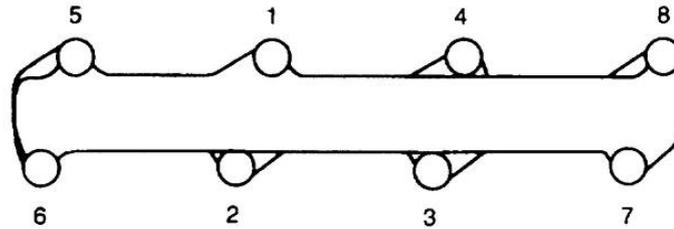

Figure 24 Exhaust Manifold - Tightening Sequence
- c. Place the exhaust manifold over the gaskets aligning the studs with the corresponding holes in the manifold. Secure the manifold in position with the four bolts and finger tighten the bolts. Check that each gasket is correctly positioned and not distorted and install the four nuts and washers. Torque the nuts and bolts to 16 to 25 N.m (12 to 19 lbf.ft) using the tightening sequence in Figure 24. Position the heat shield on the exhaust manifold and secure it with the retaining nuts and washers.